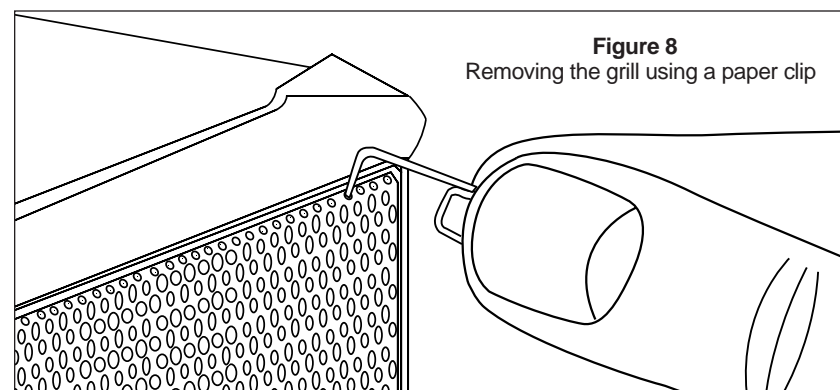

Figure 8
1. Separate the parts of the speaker. You should remove the brackets and the bracket knobs. Remove the grill by hooking it with a bent paper clip or the tip of a corkscrew and pulling it away from the cabinet (See Figure 8).